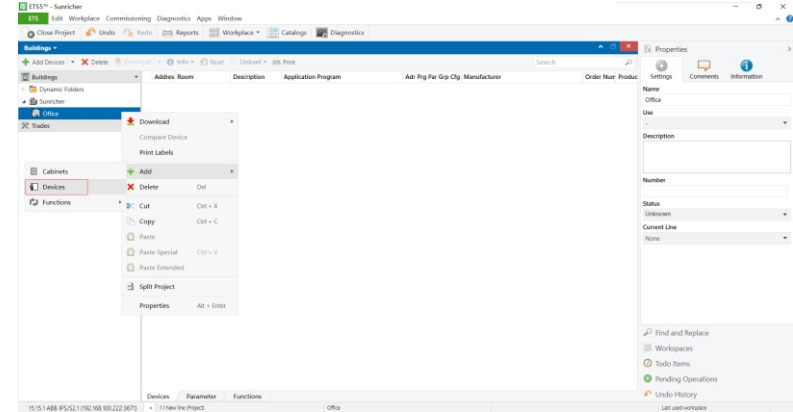

Figure 22
2.8. Right click on the created room name on the left, then click on **“Add”** and **“Devices”** to add a device to the room as shown in Figure 22.